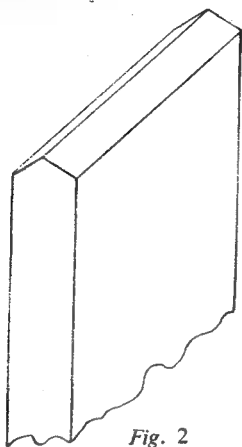
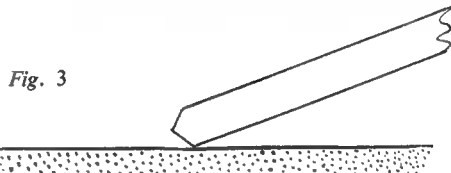

Fig. 2
Fig. 3
*rake* scraper. If the scraper is formed with a *positive* rake—like a wood chisel—it will dig into the metal, and the scraping job will be ruined. The drawing (Fig. 2) indicates the method of grinding the end of the scraper, while Fig. 3 indicates how the negative rake is used. Thus, in practice, the scraper is held at a fairly acute angle to the work, as may be seen in the photo-